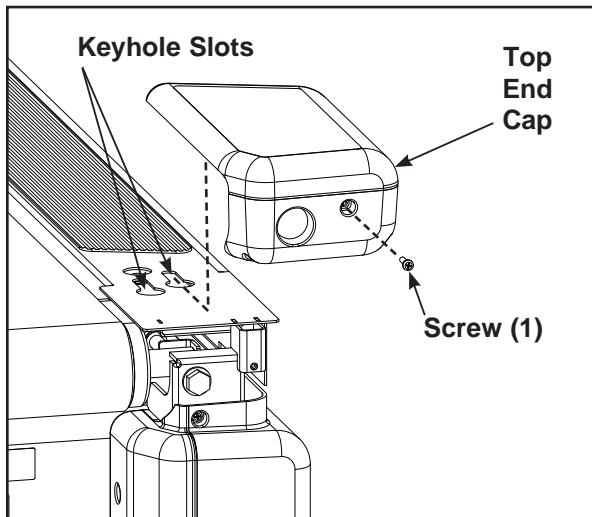

Figure 4
- A. Turn the main power switch on the front to the off (O) position.
- A. Using a Phillips screwdriver, remove the screw securing each of the top end caps to the frame. See Figure 4.